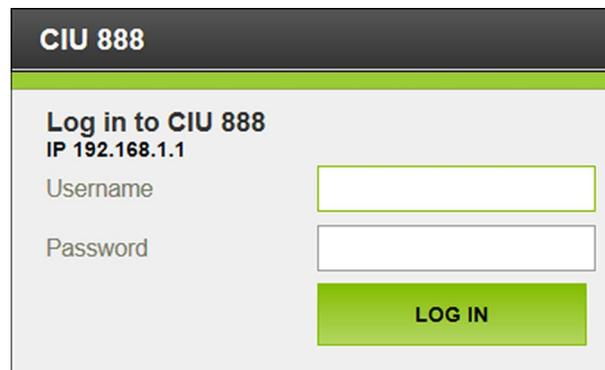

FIGURE 1-27 CIU 888 Login window
2. Enter the IP address of the CIU 888 in the address bar of the browser. The IP address is: **192.168.1.1**. Next, press the **Enter** key. The *CIU 888 Login* window is displayed (see FIGURE 1-27).